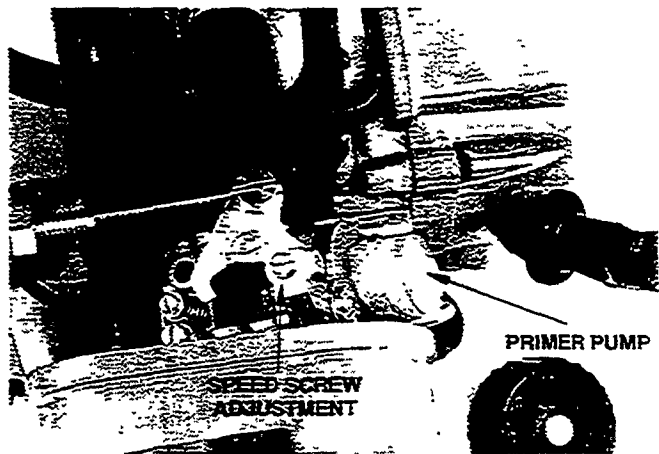

Figure 17
- Push the primer pump until fuel flows through the clear plastic return line (Figures 17 & 18).
- Adjusting idle speed should always be done with a tachometer to insure proper idle speed (2,800 to 3,300 rpm). If a tachometer is not available, the idle speed may be adjusted as follows (Figure 17):